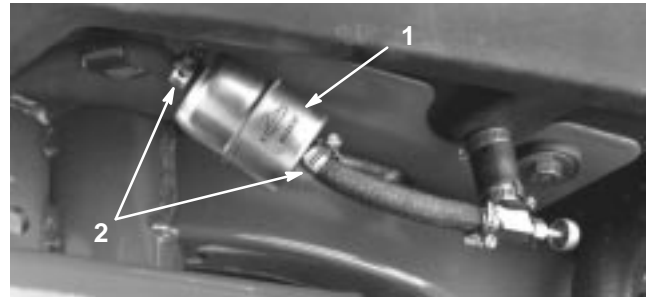

Figure 40
An in-line filter is incorporated into the fuel line between the fuel tank and carburetor (Fig. 40). Replace the filter every 800 hours or sooner if the fuel flow is restricted. Be sure the arrow on the filter is pointing away from the fuel tank.
1. Close the fuel shut off valve, loosen the hose clamp (Fig. 40) on the carburetor side of filter and remove the fuel line from the filter.
2. Place a drain pan under the filter, loosen the remaining hose clamp, and remove the filter (Fig. 40).